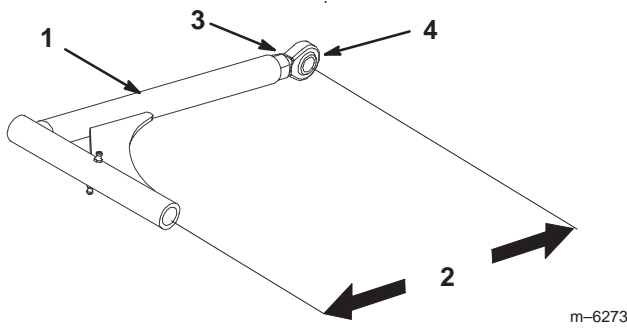

Figure 64
9. If the fixed idler contacts the end of the adjustment slot and more belt tension is required, a small change to lengthen the push arms can be made (Fig. 64).